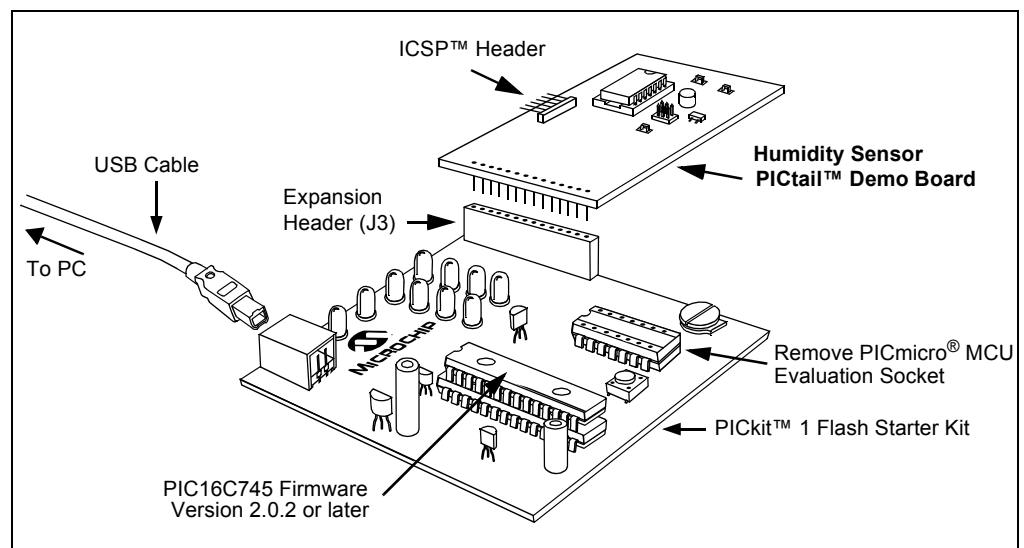

FIGURE 2-1: Board Connections for PICKit™ 1 Flash Starter Kit.
The PICkit 1 Flash Starter Kit (DV164101) programs PICmicro® microcontrollers. It is used to program the PIC16F690, and provides a communications link with the PC. The PICkit™ 1 Flash Starter Kit’s PIC16C745 has a USB port that communicates with the Humidity Sensor PC Program. It also connects to the Humidity Sensor PICtail™ Demo Board (the on-board PIC16F690) via a header (see Figure 2-1).
This section discusses the primary method for setting up the Humidity Sensor PICTail™ Demo Board. An exploded view of how the different boards connect is shown in Figure 2-1.
2. Plug this board into the PICKit 1 Flash Starter Kit's expansion header J3 (as shown in Figure 2-1) without covering the LED array. There should be no change in the status LEDs on the PICKit™ 1 Flash Starter Kit board after it is plugged in.